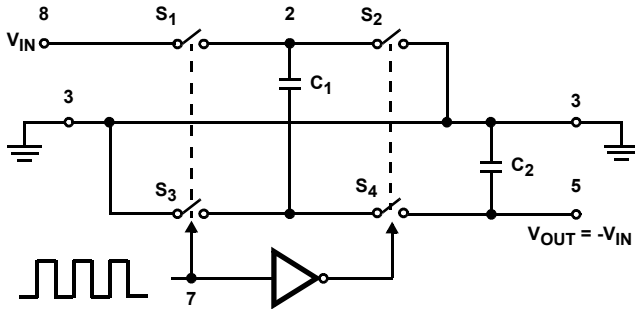
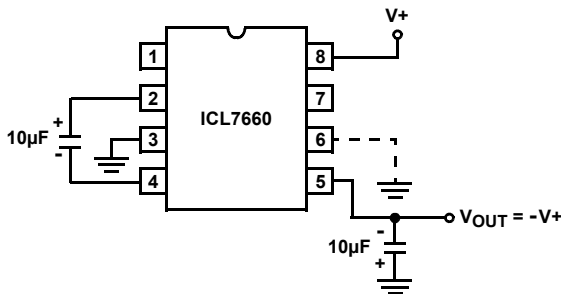

FIGURE 12. IDEALIZED NEGATIVE VOLTAGE CONVERTER
FIGURE 13A. CONFIGURATION
The ICL7660 contains all the necessary circuitry to complete a negative voltage converter, with the exception of two external capacitors which may be inexpensive 10µF polarized electrolytic types. The mode of operation of the device may be best understood by considering Figure 12 on page 7, which shows an idealized negative voltage converter. Capacitor  $C_1$  is charged to a voltage,  $V+$ , for the half cycle when switches  $S_1$  and  $S_3$  are closed. (**Note:** Switches  $S_2$  and  $S_4$  are open during this half cycle.) During the second half cycle of operation, switches  $S_2$  and  $S_4$  are closed, with  $S_1$  and  $S_3$  open, thereby shifting capacitor  $C_1$  negatively by  $V+$  volts. Charge is then transferred from  $C_1$  to  $C_2$  such that the voltage on  $C_2$  is exactly  $V+$ , assuming ideal switches and no load on  $C_2$ . The ICL7660
In the ICL7660, the four switches of Figure 12 are MOS power switches;  $S_1$  is a P-Channel device and  $S_2$ ,  $S_3$  and  $S_4$  are N-Channel devices. The main difficulty with this approach is that in integrating the switches, the substrates of  $S_3$  and  $S_4$  must always remain reverse biased with respect to their sources, but not so much as to degrade their ON resistances. In addition, at circuit start-up, and under output short circuit conditions ( $V_{OUT} = V+$ ), the output voltage must be sensed and the substrate bias adjusted accordingly. Failure to accomplish this would result in high power losses and probable device latchup.
where  $V_1$  and  $V_2$  are the voltages on  $C_1$  during the pump and transfer cycles. If the impedances of  $C_1$  and  $C_2$  are relatively high at the pump frequency (refer to Figure 12) compared to the value of  $R_L$ , there will be a substantial difference in the voltages  $V_1$  and  $V_2$ . Therefore it is not only desirable to make  $C_2$  as large as possible to eliminate output voltage ripple, but also to employ a correspondingly large value for  $C_1$  in order to achieve maximum efficiency of operation.
The output characteristics of the circuit in Figure 13A on page 7 can be approximated by an ideal voltage source in series with a resistance as shown in Figure 13B on page 7. The voltage source has a value of -V+. The output impedance (RO) is a function of the ON resistance of the internal MOS switches (shown in Figure 12 on page 7), the switching frequency, the value of C1 and C2, and the ESR (equivalent series resistance) of C1 and C2. A good first order approximation for RO is: